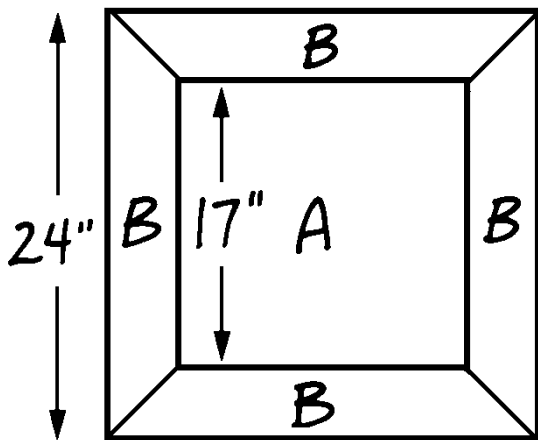

Figure 1
1. Cut one 17" x 17" center top (A) from laminated pine.
2. Cut four 24"-long top trim pieces (B) from 1 x 4 pine.
3. Set each top trim piece (B) on its face and miter each end of all four pieces at a 45-degree angle, as shown in *Figure 1*. When you're finished, one edge of each top trim piece should be 17" long and the opposite edge should be 24" long.
4. Glue and clamp the top trim pieces (B) to the edges of the table top (A) and leave the assembly undisturbed for at least 24 hours. The framed top should measure 24" x 24".